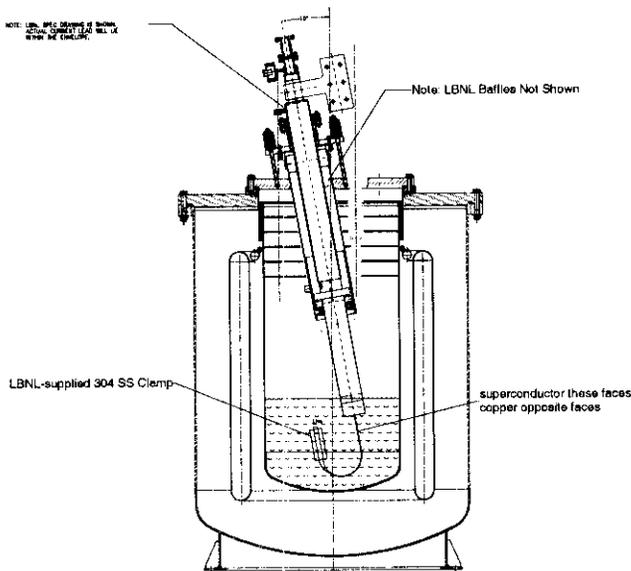

Figure 4.3a Side View of Lead in Cryostat with the LTS cables connected.
- 4.3** Make connection to LTS pigtailed. The joint is a mechanical connection with a stainless steel clamp block (supplied by LBNL) and indium foil between the cables to ensure good electrical contact. Torque each of the clamp block fasteners to **10 ft-lbf**. Figure 4.3a shows a rendition of